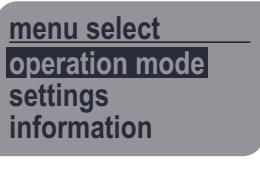

Fig.6
- Place the main switch on the right side of the appliance in the "I" position (Fig.6).